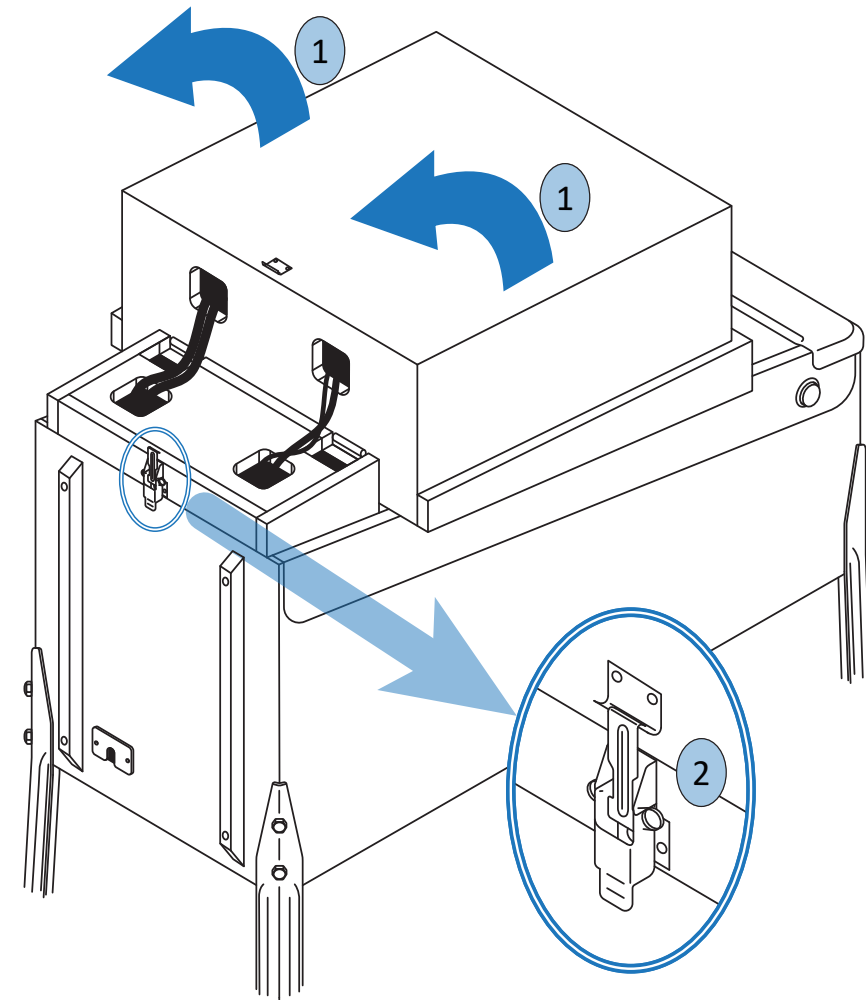

Figure 1-7. Raising the backbox to its upright position.
7) Remove the cleat and the other packing material from the game, then 1 raise the backbox to its upright position (see figure 1-7). Ensure that the cables and wires in the neck of the game do not get pinched at any time during this process. 2 Engage the toggle latch on the back of the cabinet (inset close-up, below) to hold the backbox in place until the next step.